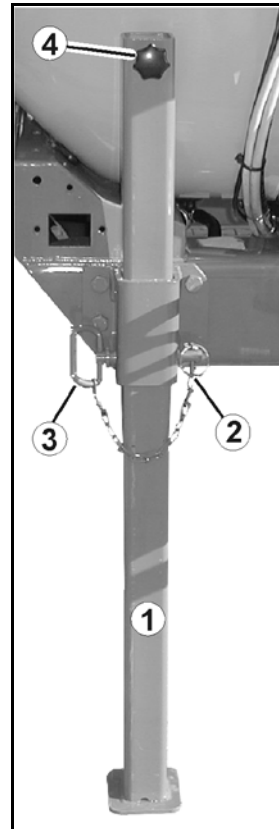

Fig. 42
AutoTrail tracking control for automatic, virtually 100% precise tracking captures the position of the angle of the drawbar (Fig. 42/1) to determine the direction of travel of the tractor.
1. Insert the rod (Fig. 42/2) into the plastic bush (Fig. 42/3) stecken.
2. Insert the position encoder (Fig. 42/4) into the holder (Fig. 42/5).